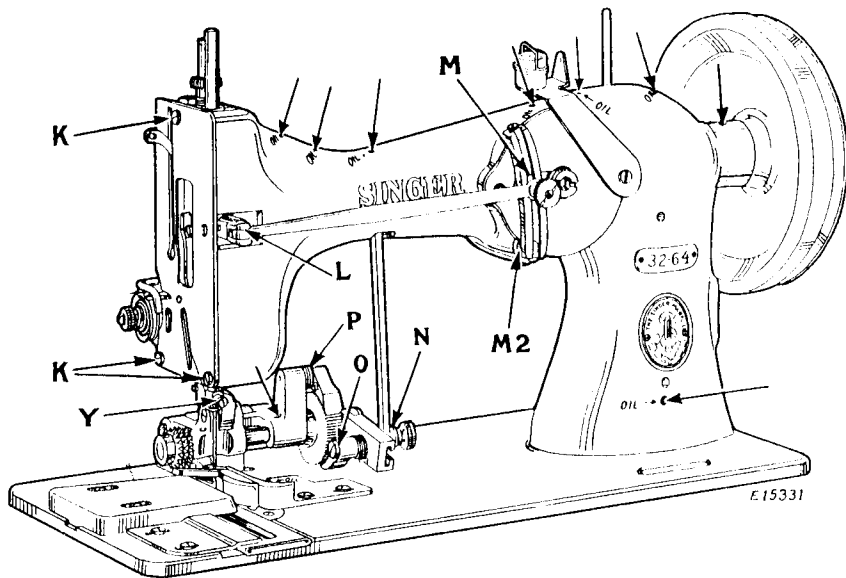

Fig. 3. Oiling Points at Front of Machine
Remove the three screws (K, Fig. 3) and remove the face plate.
Apply a drop of oil at (L, Fig. 3) for the hinge screw at the left hand end of the needle bar frame pitman; at (M) where the sliding block, at the right hand end of the pitman, slides in the groove of the needle bar frame regulator; at (M2) for the hinge at the lower end of the needle bar frame regulator; at the hinge screw (N) at the lower end of the feed connecting rod; at (O) the feed ratchet pawl hinge screw, and at (P) the feed ratchet retaining pawl hinge screw.
Turn the balance wheel over toward you until the needle bar is at its highest position; loosen the set screw (Y, Fig. 3), in the needle clamp at the lower end of the needle bar, and insert the needle up into the clamp as far as it will go and with the long groove of the needle toward you, then tighten the set screw (Y).